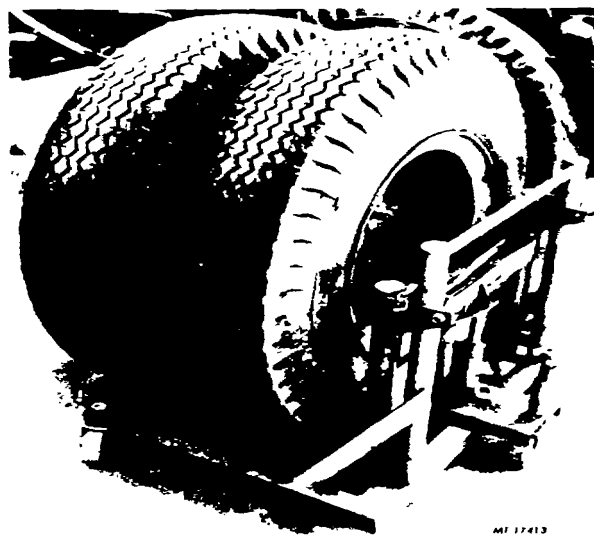

Fig. 8
5. Use a wheel dolly to remove wheel and drum assembly (Fig. 8). Be sure to catch outer bearing assembly as wheel and hub is removed.